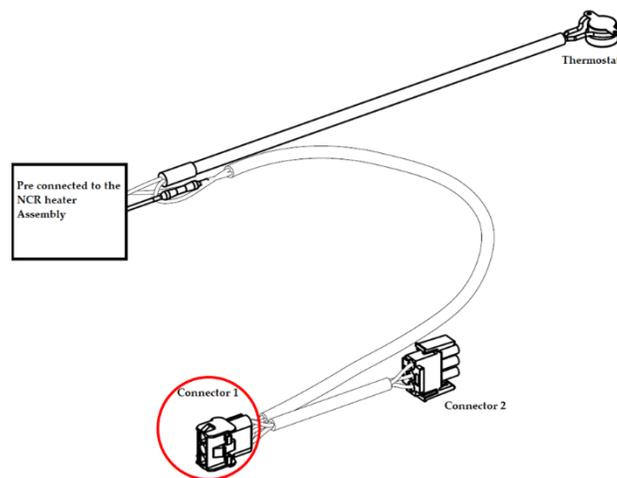
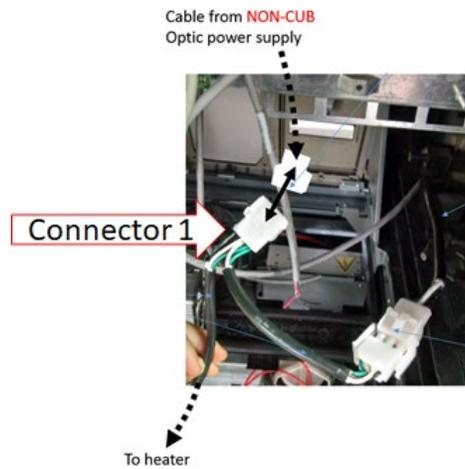

Figure 149
Figure 150
- 9) Attach Connector 1 (identified in Figure 149) to the NON-Invenco Link OPTIC power supply cable as shown in Figure 150.